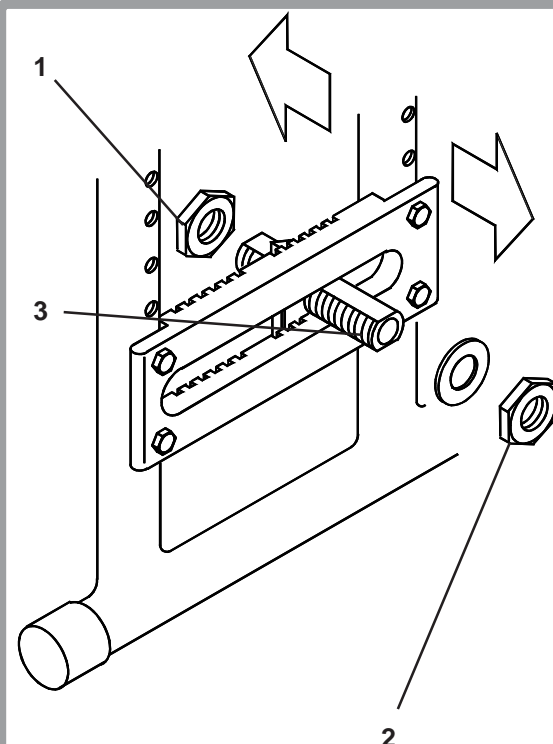

Fig. 22
The wheelbase width (Fig. 22) is the distance between the wheels and is adjusted by loosening the inner (1) and outer axle sleeve nuts (2), using two 28mm A/F spanners, and positioning the axle sleeve (3) where required. The nuts must be tightened using a torque spanner to 45Nm torque.